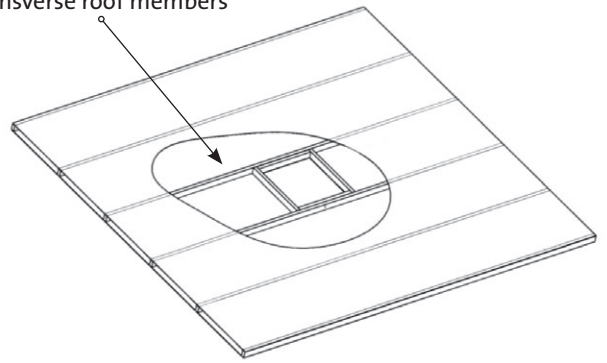

Fig 3: Shows an ideal roof structure with strong longitudinals and a 14’ hole boxed.
- The square hole in the roof (356 x 356mm, 14” x 14”) **MUST** be boxed up with minimum 20mm square timber to provide a structure strong enough to withstand the compression of the installation bolts. This is also to ensure that air is not drawn from the roof cavity (Fig 3 & 4). Remember to leave access for wiring.
- Longitudinals **MUST** be fixed securely to the transverse roof members to transfer load (Fig 3 & 4).